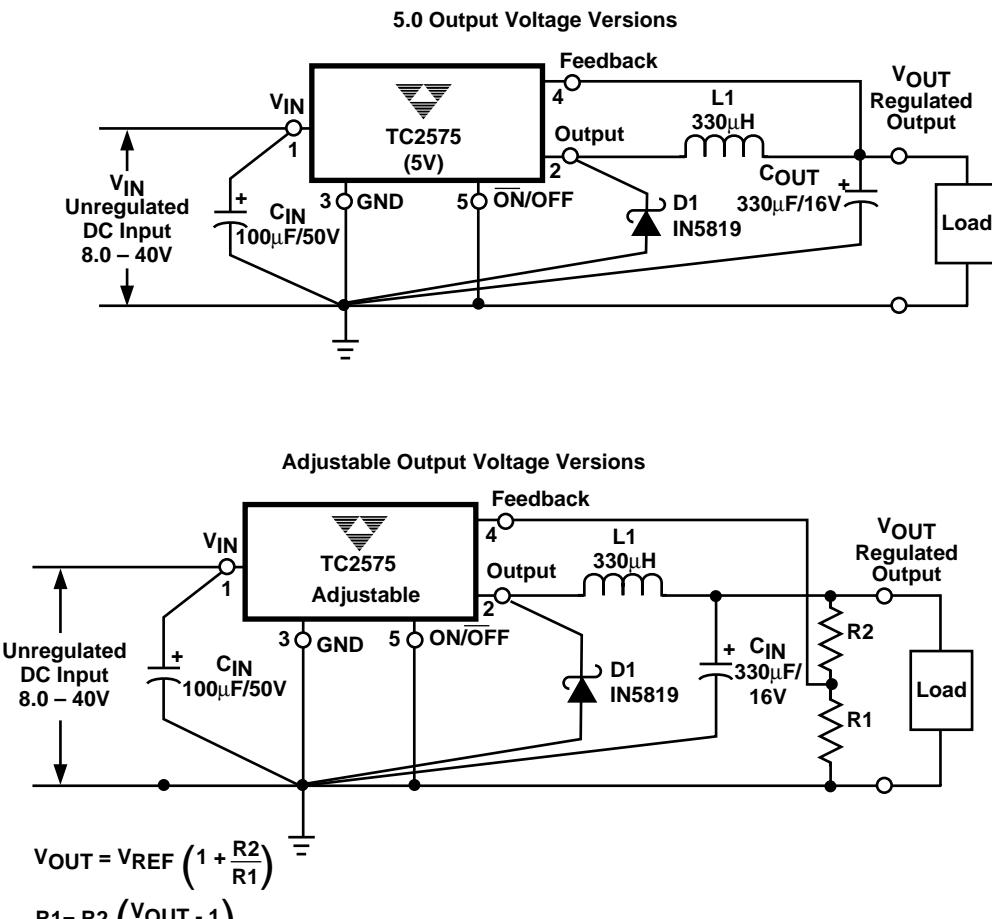

Figure 2. Typical Test Circuit
TC2575-3.3 [(Note 1) Test Circuit Figure 2]
TC2575-5 [(Note 1) Test Circuit Figure 2]
TC2575-12 [(Note 1) Test Circuit Figure 2]
TC2575-Adjustable Version [(Note 1) Test Circuit Figure 2]
**NOTES:** 1. External components such as the catch diode, inductor, input and output capacitors can affect the switching regulator system performance. When the TC2575 is used as shown in the Figure 2 test circuit, the system performance will be as shown in the system parameters section of the Electrical Characteristics.
As in any switching regulator, the layout of the printed circuit board is very important. Rapidly switching currents associated with wiring inductance, stray capacitance and parasitic inductance of the printed circuit board traces can generate voltage transients which can generate electromagnetic interferences (EMI) and affect the desired operation. As indicated in the Figure 2, to minimize inductance and ground loops, the length of the leads indicated by heavy lines should be kept as short as possible.
<p>Given Parameters:</p> <p>VOUT = Regulated Output Voltage  VIN (max) = Maximum DC Input Voltage  ILOAD (max) = Maximum Load Current</p> <p>1. Programming Output Voltage</p> <p>To select the right programming resistor R1 and R2 value (see Figure 2) use the following formula:</p> $V_{OUT} = V_{REF} \left( 1.0 + \frac{R2}{R1} \right) \text{ where } V_{REF} = 1.23V$ <p>Resistor R1 can be between 1.0k<math>\Omega</math> and 5.0k<math>\Omega</math>. (For best temperature coefficient and stability with time, use 1% metal film resistors).</p> $R2 = R1 \left( \frac{V_{OUT}}{V_{REF}} - 1 \right)$ <p>2. Input Capacitor Selection (CIN)</p> <p>To prevent large voltage transients from appearing at the input and for stable operation of the converter, an aluminium or tantalum electrolytic bypass capacitor is needed between the input pin +VIN and ground pin GND. This capacitor should be located close to the IC using short leads. This capacitor should have a low ESR (Equivalent Series Resistance) value.</p> <p>For additional information see input capacitor section in the "EXTERNAL COMPONENTS" section of this data sheet.</p>	<p>Given Parameters:</p> <p>VOUT = 8.0V  VIN (max) = 12V  ILOAD (max) = 1.0V</p> <p>1. Programming Output Voltage (selecting R1 and R2)</p> <p>Select R1 and R2</p> $V_{OUT} = 1.23 \left( 1.0 + \frac{R2}{R1} \right) \text{ Select } R1 = 1.8k\Omega$ $R2 = R1 \left( \frac{V_{OUT}}{V_{REF}} - 1 \right) = 1.08k \left( \frac{8.0V}{1.23V} - 1 \right)$ <p>R1 = 9.91k<math>\Omega</math>, choose a 9.88k<math>\Omega</math> metal film resistor.</p> <p>2. Input Capacitor Selection (CIN)</p> <p>A 100<math>\mu</math>F, aluminium electrolytic capacitor located near the input and ground pin provides sufficient bypassing.</p>